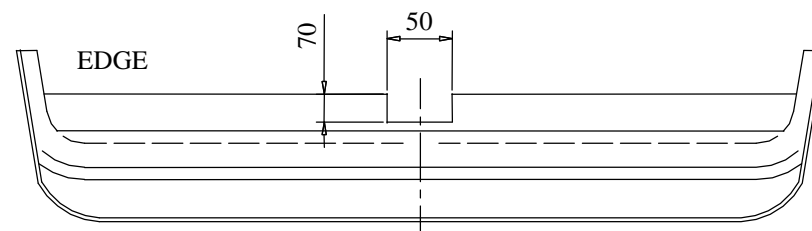

Fig. 2
3. Position the main bar of the towbar (pos. 1) to chassis members and fix it through the original holes using bolts M10x1,25x35mm (pos. 8).
4. Through the hole (pos. A) and original towing eye fix using bolt M12x140mm (pos. 6) together with washers (pos. 5) and distance sleeve ø25xø13mm, L=73mm (pos. 4).
5. Cut the bumper according to the fig.2, then reassemble it.